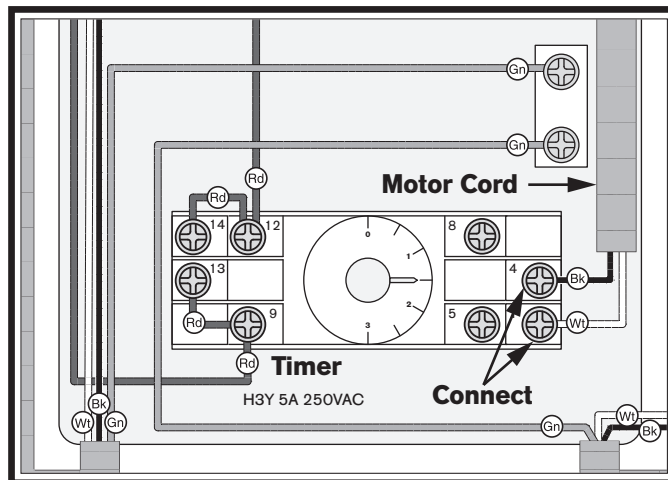

Figure 31. Filter brush motor connection.
- 37.** Connect terminal ends of motor cord to right terminals of timer inside switch box (see **Figure 31**).